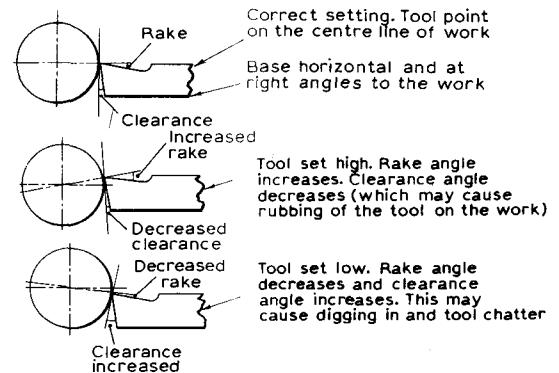

Fig. 4.189 Effect of tool height on rake and clearance angles
**Setting the tool in the lathe.** Fig. 4.189 illustrates the importance of setting the tool at the correct height.